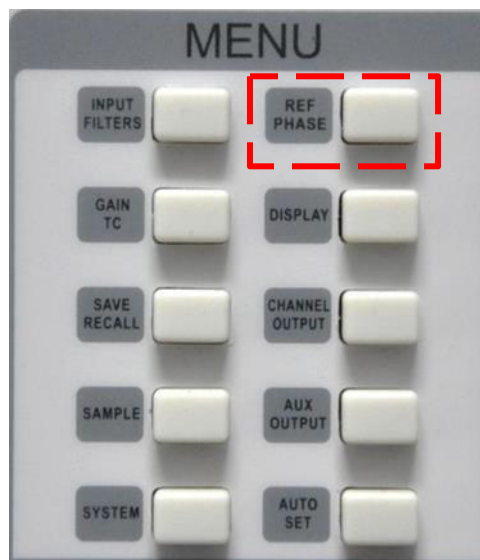

Fig.98 [REF PHASE] Submenu
- Press [REF PHASE] in front panel and set <Harmonic> to the required order, as is shown in Fig.98.